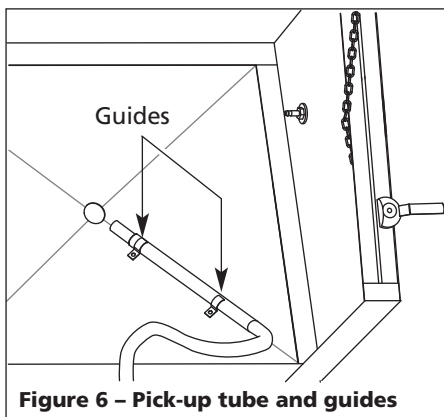

Figure 6 - Pick-up tube and guides
9. Position the end of the pick up tube in the middle of the cabinet where the blast media will be deepest. There are metal guides to help stabilize the pick-up tube (see Figure 6).